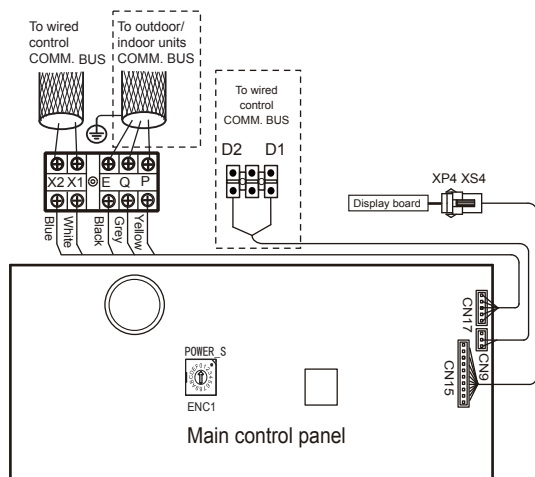

Figure 6.10
- The X1/X2, D1/D2 ports on the sides of the main control board and the unidirectional communication port (display board side) are for different types of wired controls (see Figure 6.10).